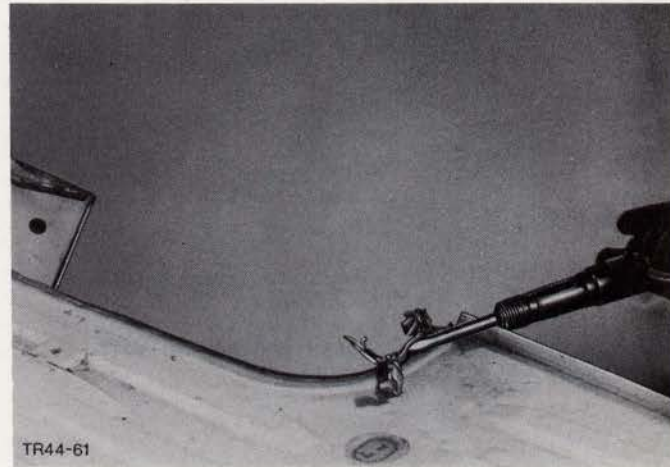

Fig.178. Remove metal remnants.
2. Remove metal remnants from spot weld flange, Fig.178.